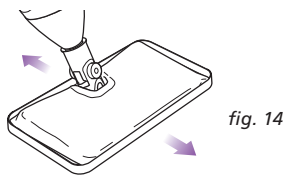

fig. 14
- 2 Move the Steam Mop back and forth across a section of the carpet. (fig. 14)